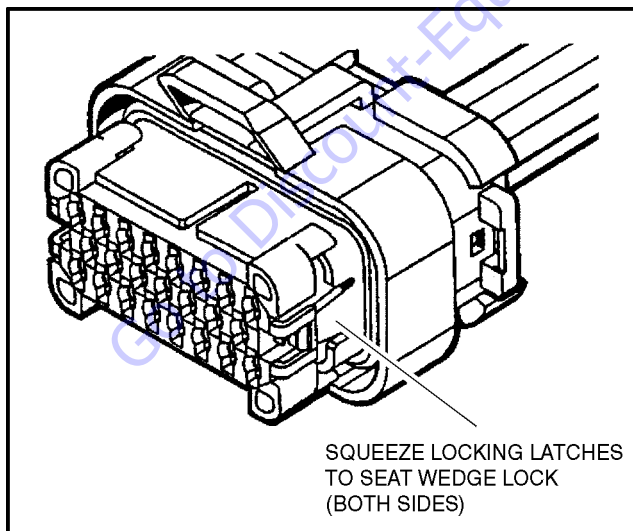

Figure 7-12. Connector Assembly Figure 3
3. After all required contacts have been inserted, the wedge lock must be closed to its locked position. Release the locking latches by squeezing them inward. (See Figure 7-12.)